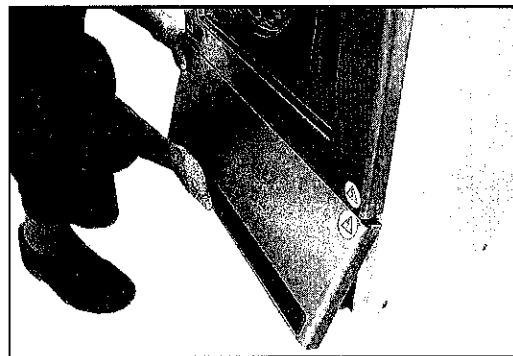

fig. 2
- Lower front cover. Unscrew the three fastening screws at the base and separate it from the machine (*fig. 2*).